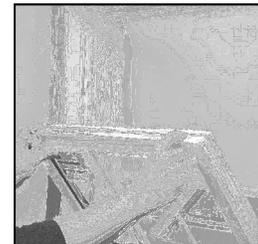

Fig. 4c
2. Lower the upper sash until it is about 2- 6" from the lower sash, then feel along the top of the upper sash for the tilt out latches. Grasp both latches and pull them toward each other (to the center of the window), then pull the sash inward towards you. (*see fig 4c*).